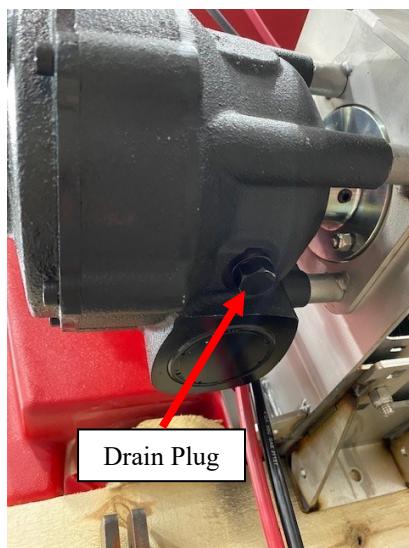

Figure 2
3. Place a drain pan under the bottom drain plug of the gearbox, remove the drain plug and the fill plug to allow adequate draining of oil. (See Figures 2 and 3)